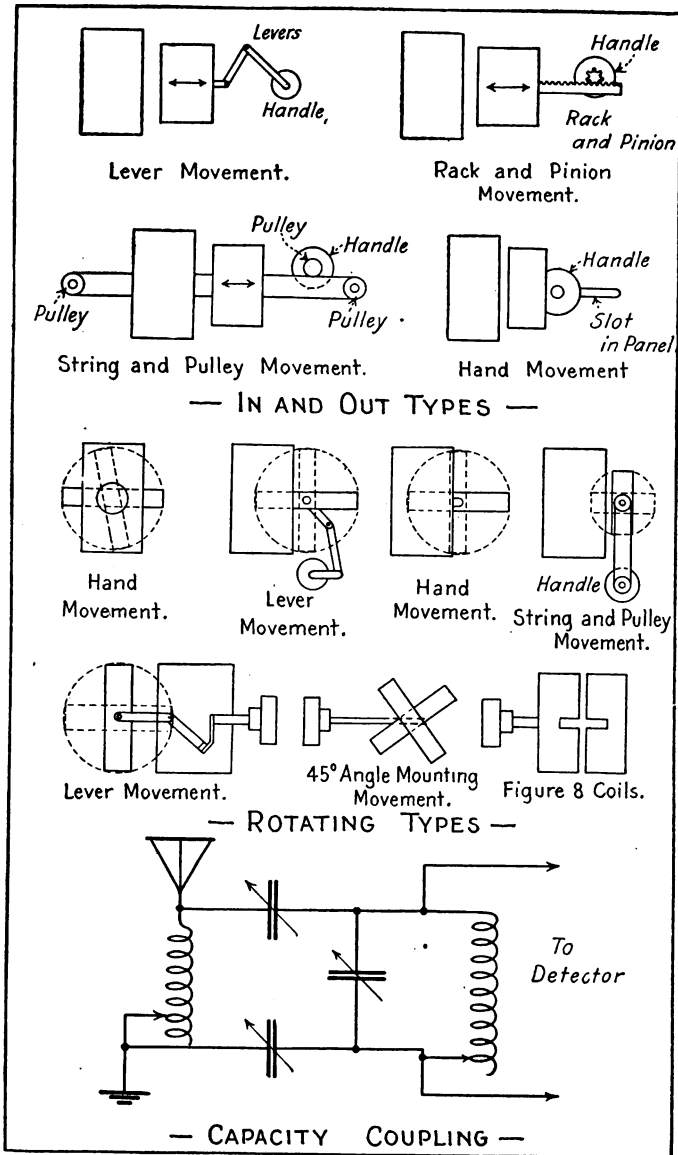

Fig. 8.—Various Ways in which the Coupling between Two Coils can be Varied.
Various methods of effecting the movement are given in Fig. 8.
B. Rotating Types. A number of ways to vary inductance by rotating one coil are given in Fig. 8. The coils can be wound on cylindrical or spherical forms. They can be separated considerably at maximum coupling, for very tight coupling is not essential. The coefficient of coupling need not exceed 5%.
A. Variation of mutual inductance. Any of the methods in Fig. 8, except the capacity coupling, can be employed by connecting the coils in series or parallel. Resulting effective inductance is given by the formulas in Section 5. It is necessary to have the coils as close together as possible in order to obtain a large variation. When the planes of the windings are at right angles, the mutual inductance is O .